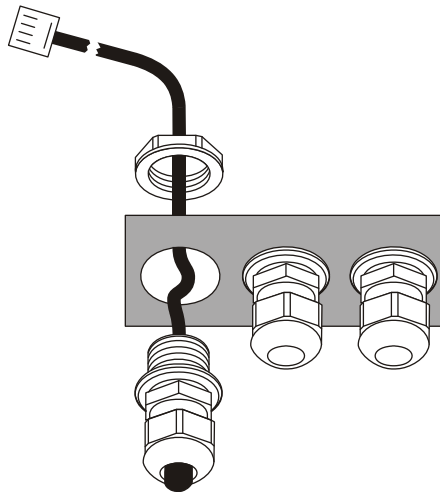

Figure 10.1 Temperature probe installation
4. Remove the nut from the Strain-Relief and run the cable up through the hole in the bottom of the enclosure. See Figure 10.1.